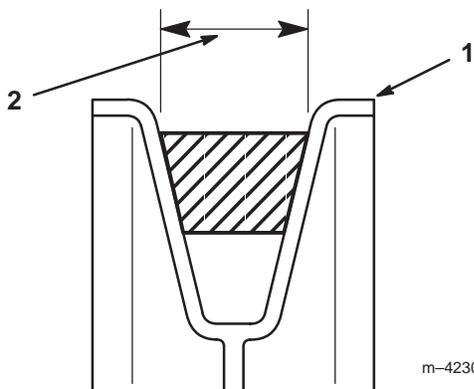

Figure 13
7. Make certain that the wide side of the PTO drive belt is toward the outside diameter of **all (four) pulleys (Fig. 13)**.